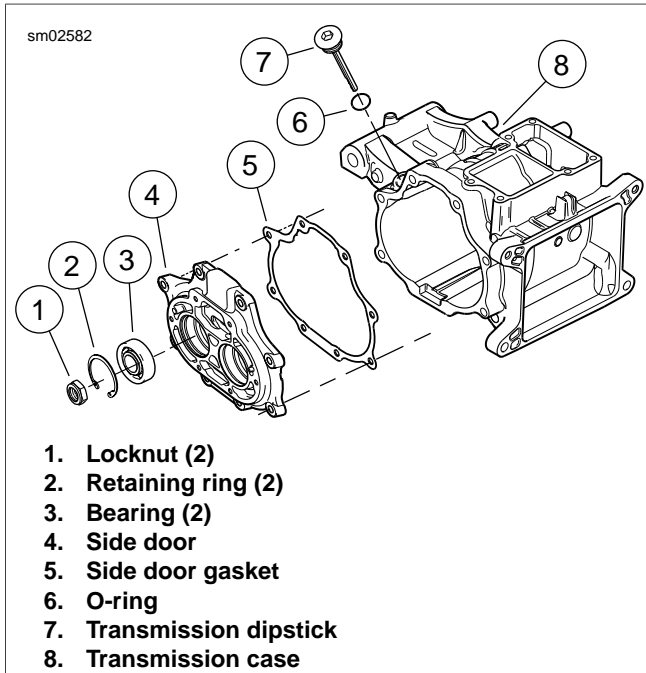

Figure 6-24. Side Door Bearings
- 1. See Figure 6-24. Remove the retaining rings (2).
- See Figure 6-24. Install beveled retaining ring (2) with the flat side next to the bearing.